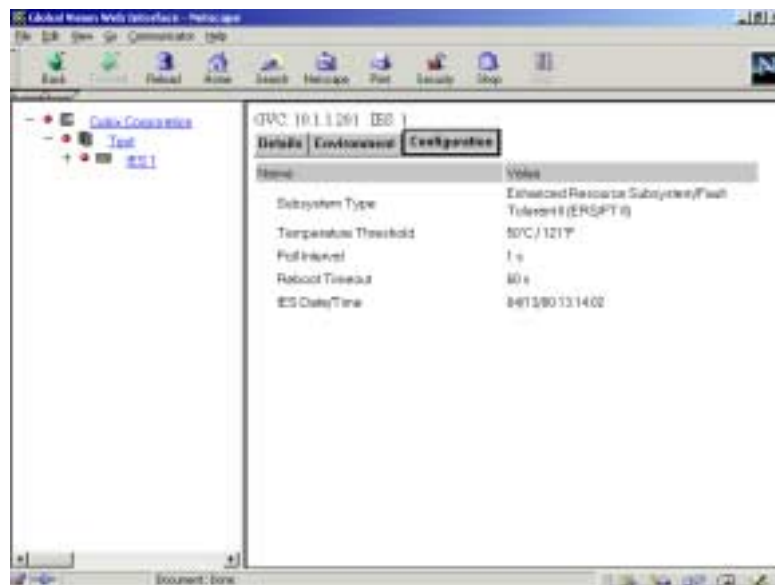

Figure 142 – GV Web, IES level – Configuration
- ◆ **Configuration** shows the configuration conditions of the specific IES, or chassis. See Figure 142.